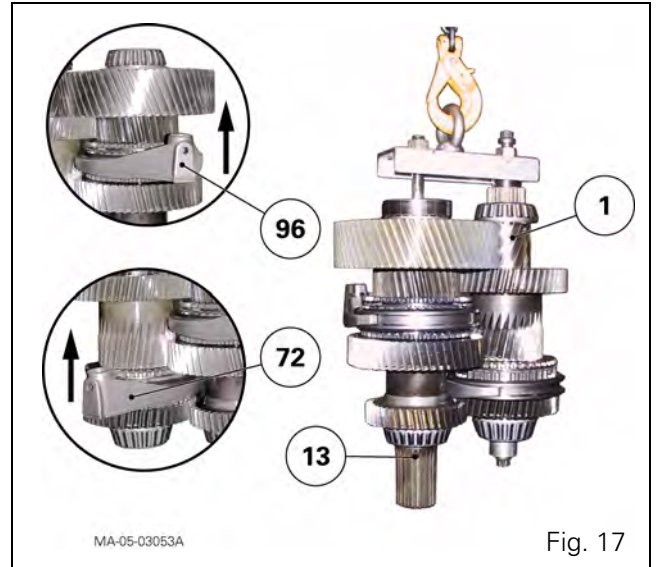

Fig. 17
33. Check the presence of the bearing cups (47), (51) and (118) in the housing (5).
34. Assemble the shafts (1) and (13); Place service tool ref. 3378804M1 as for operation 26 (Fig. 17).
35. Fit the forks (72) and (96) on the synchroniser sliders. The offset side of the fork must be turned towards the front of the tractor (Fig. 17).
36. Fit the two shafts in the housing. At the same time, fit the reverse transfer pinion (116) fitted with the two bearing cones (115) and (117) (Fig. 17).